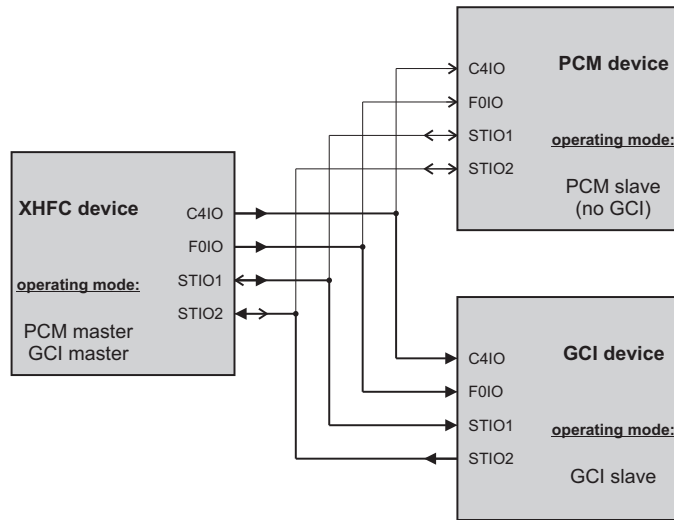

Figure 6.15: GCI application example 1 (XHFC-1SU is PCM master and GCI master)
Figure 6.15 shows a typical application where XHFC-1SU is both PCM master and GCI master (most application cases, standard configuration). This means:
**Table 6.9:** Programming procedure for application example 1 according to Figure 6.15 (XHFC-1SU is PCM master and GCI master)